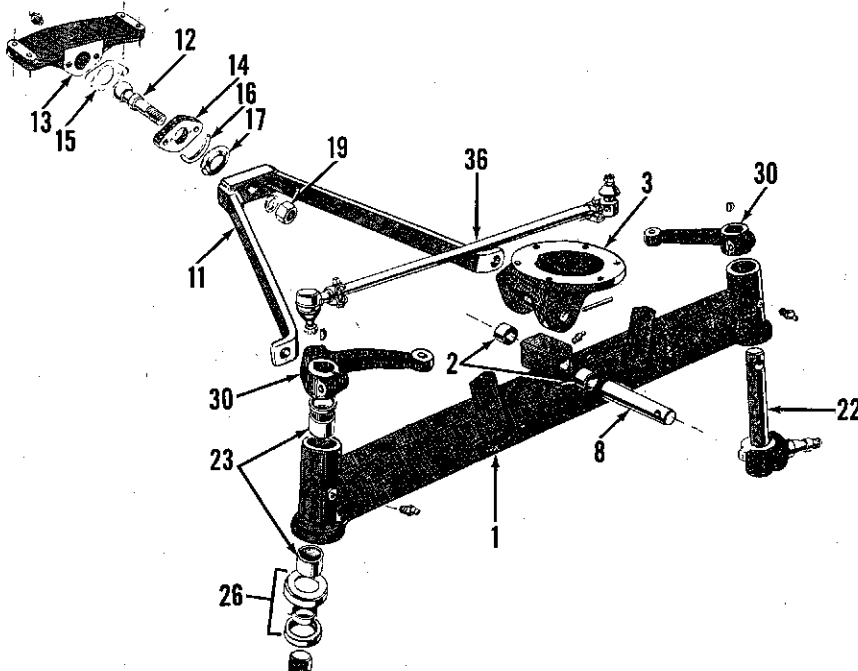

Fig. MH756 — Exploded view of steering axle used on late 303 and all 406 and 1001 models. Refer to Fig. MH754 for legend.
Model 303 tractors after serial No. 1194, and all 406 and 1001 tractors are equipped with spindles of the type shown in Fig. MH756. Spindle rotates in needle bearings (23) instead of the conventional bushing. The needle bearings can be renewed with a suitable drift after removing steering arm (30), spindle (22) and the old bearings, from axle center member (1). Thrust bearing (26) consists of a sleeve, seal and bearing as shown. Thrust bearing components are renewable individually.